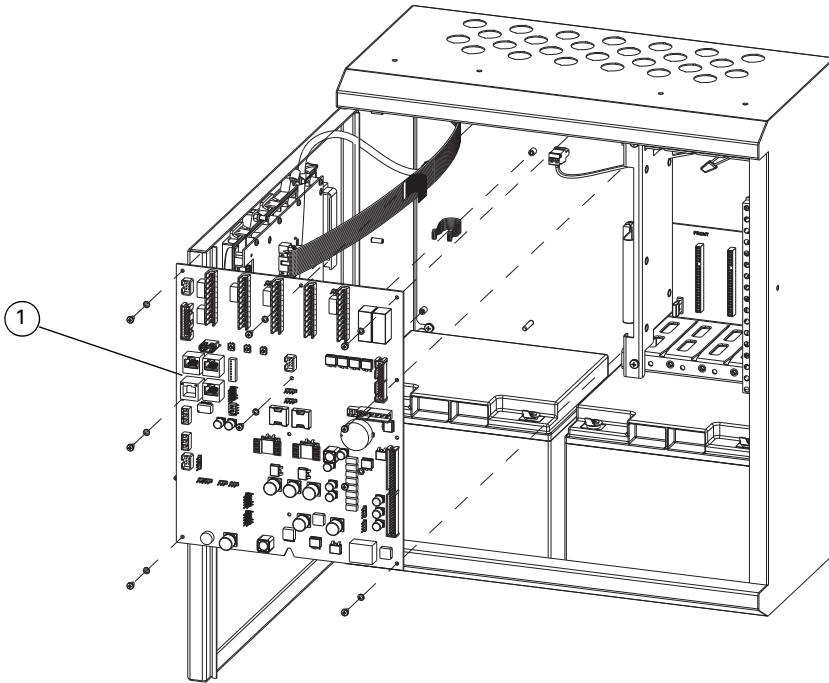

Fig. 2: FC700 Series panel
- 4 Remove the existing board by unscrewing the nine bolts attaching it to the panel housing. Refer to Fig. 2.